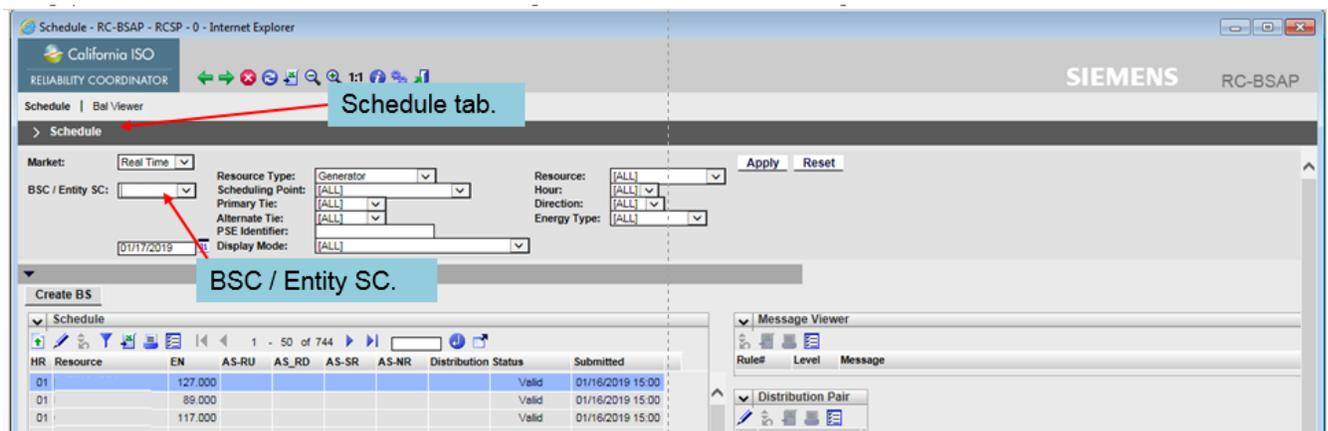

Figure 8: Schedule tab
2. The Schedule Screen page is the default page that is loaded shown in figure 8.